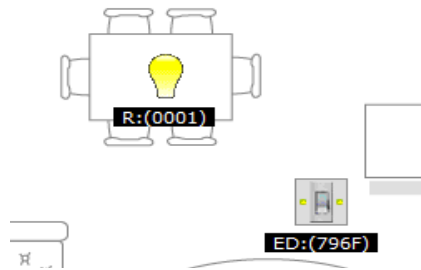

Figure 13. The On/Off Switch Sending “Toggle” to the On/Off Light
2. Press SW1 on the On/Off Switch board. This sends the Toggle command to the light. Notice how LED2 on the On/Off Light board turns on and the On/Off Light icon on the ZeD GUI displays the light bulb on as shown in Figure 13. The small LEDs on the On/Off Switch icon also turn yellow to indicate that the Combined Interface also received the Toggle command from the On/Off Switch and updated the icon.